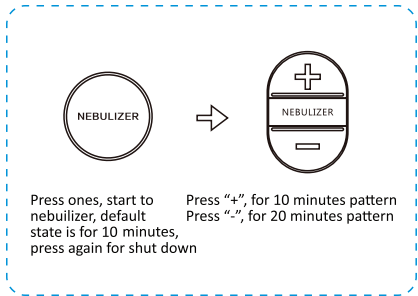

Figure 7.7.1
- ▶ Press “atomization” key to start the higher grade; press atomizing volume regulation key “+”. To adjust it to the lower grade, press atomizing volume regulation key “-”. See Figure 7.7.1.